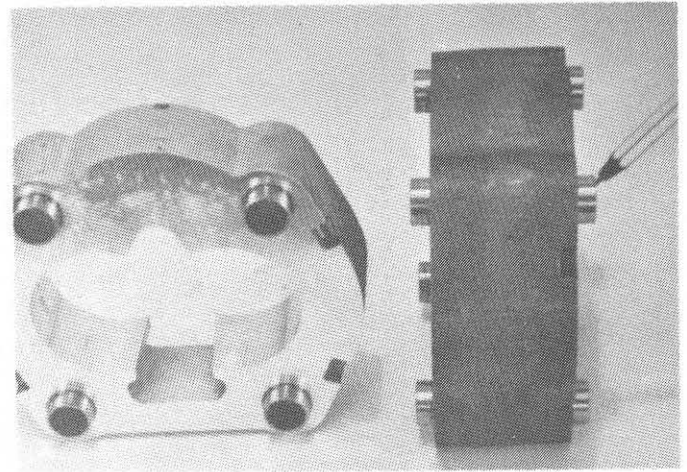

FIG. 16
19. Dowels (11) are pressed into gear plates. There are eight dowels in each plate, four on each side, and unless gear plate (2) is replaced, it is not necessary to remove them. To remove the dowels, use a punch and hammer to drive them out. Place the punch inside of dowel and against end of dowel on opposite side and tap it out. (Fig. 16)